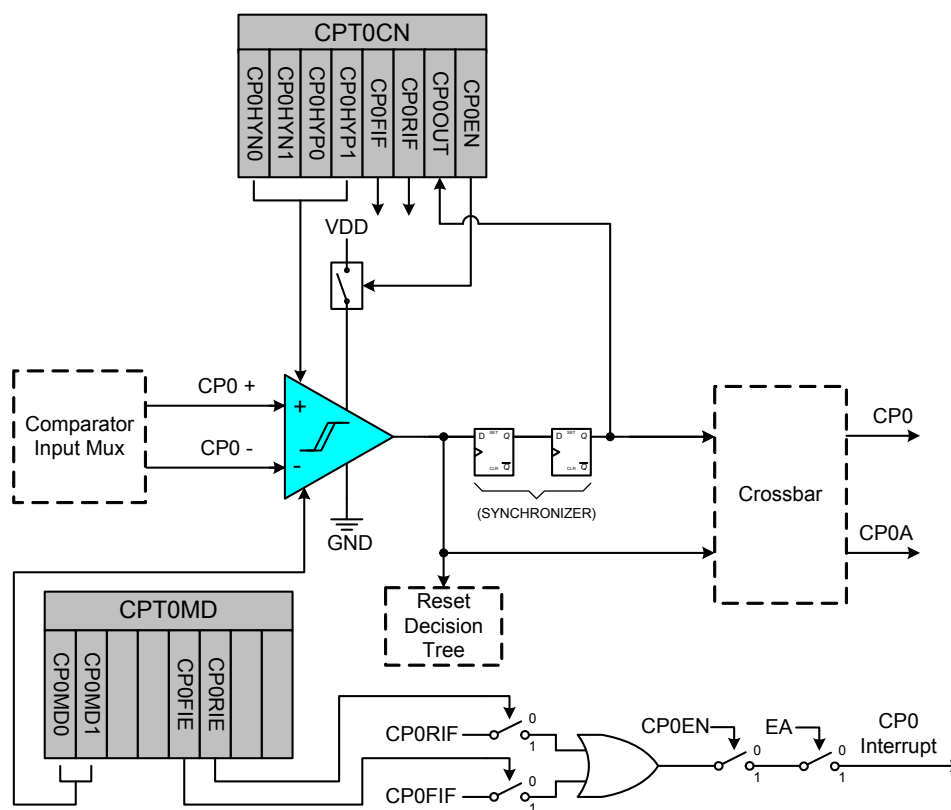
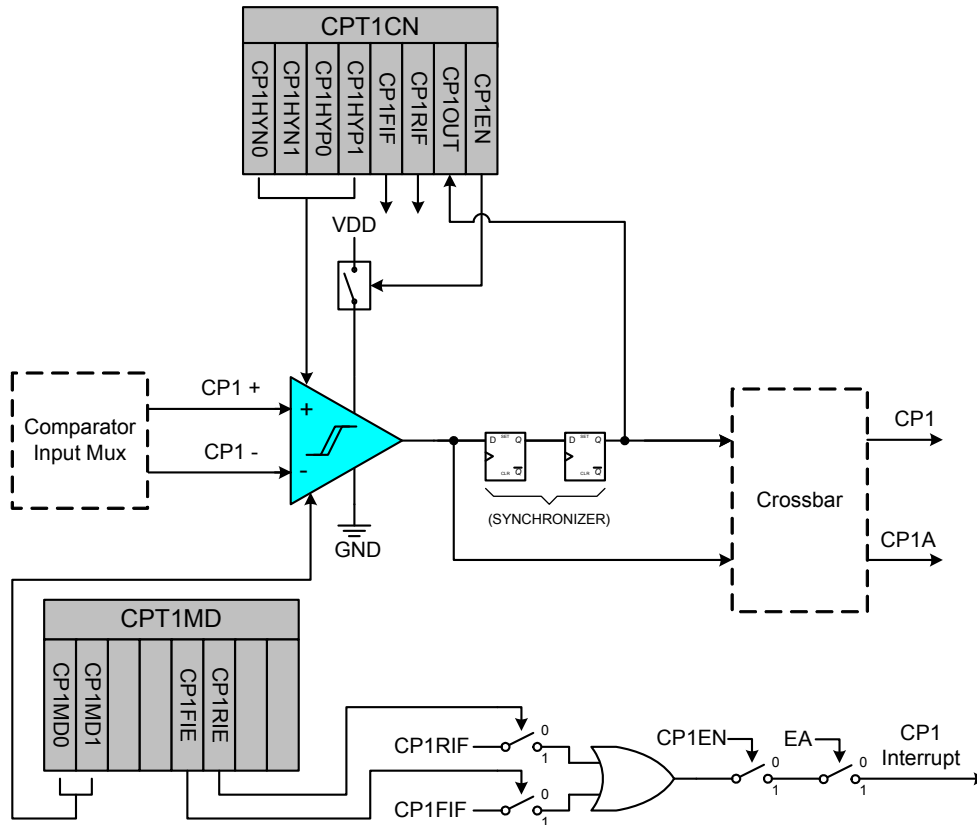

Figure 8.1. Comparator0 Functional Block Diagram
Figure 8.2. Comparator1 Functional Block Diagram
C8051F380/1/2/3/4/5/6/7/C devices include two on-chip programmable voltage comparators: Comparator0 is shown in Figure 8.1, Comparator1 is shown in Figure 8.2. The two comparators operate identically with the following exceptions: (1) Their input selections differ as described in Section “8.1. Comparator Multiplexers” on page 71; (2) Comparator0 can be used as a reset source.